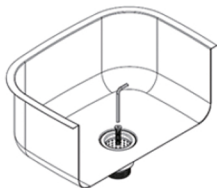

FIG 3
d) Hold main body of the scraptrap under the 50mm outlet, screw the centre bolt through the fixed basket into the main body from the top of the sink. Tighten with Allen key provided as shown in Fig 3.